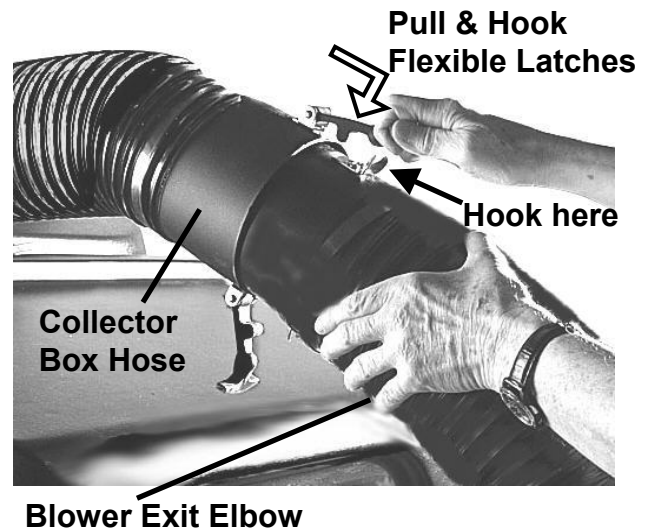

Figure 15
1. Connect the hose from the Collector Box to the Blower Exit Elbow Assembly by aligning the two flexible latches (*Figure 15*) and slipping the hoses together.
2. Pull and hook the two flexible latches into place (*Figure 15*) to secure the hoses.